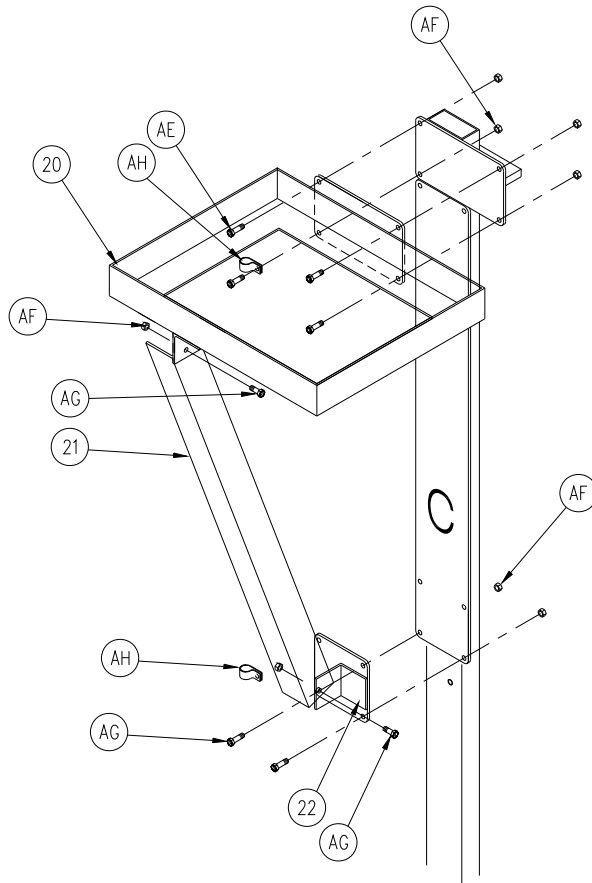

Figure 3-10
1. Refer to Figure 3-10. Install VL hydraulic power unit shelf frame to leg “D”. Use fasteners AE, AF & AG to attach the shelf frame and diagonal brace.